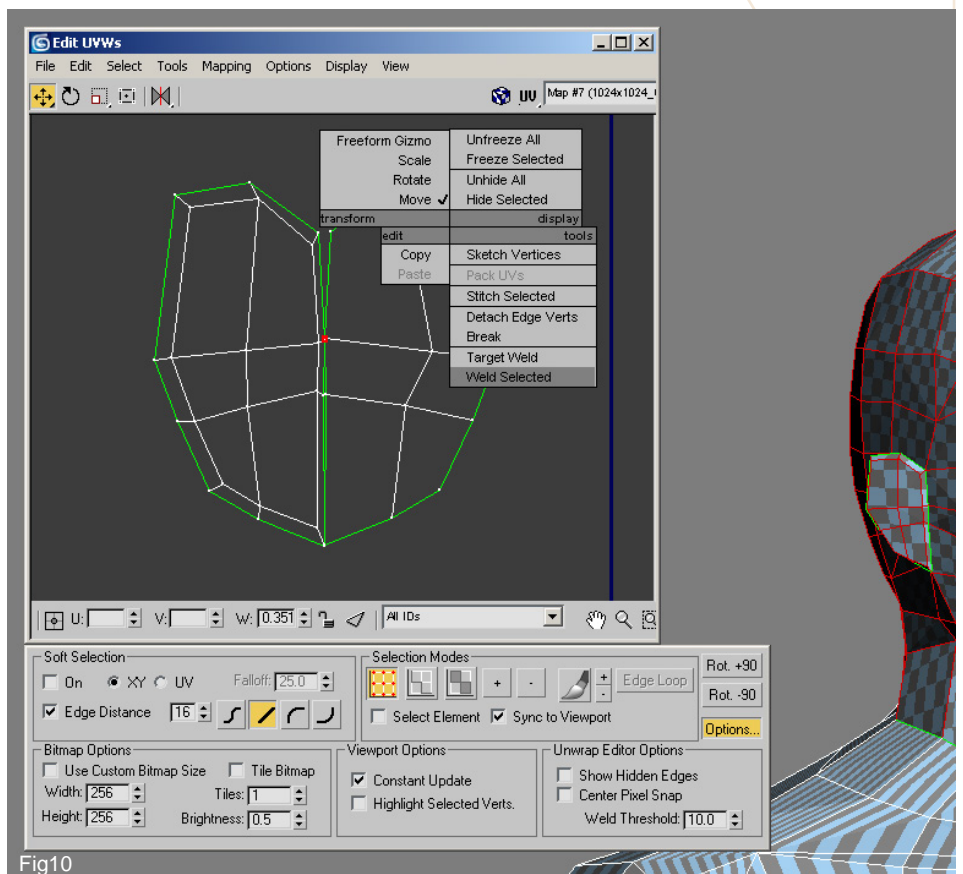

Fig10
10. Make sure that the two sections of the ear are very close and then region select two adjacent verts and then right click and you will see four context sensitive quads appear. Scroll down and click on Weld Selected as shown in Fig 10. To make sure you weld both open the Options by clicking on the tab in the bottom right (highlighted in yellow) and turn the Weld Threshold up to 10.0. As open edges are welded so some of the green seam lines become white to indicate they are now closed.